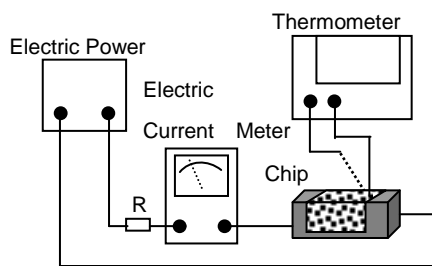

Fig. 5.3.3-1
- Definition of Rated Current(I_r): I_r is direct electric current as chip surface temperature rose just 20°C against chip initial surface temperature(T_a) (see **Fig. 5.3.3-2**).